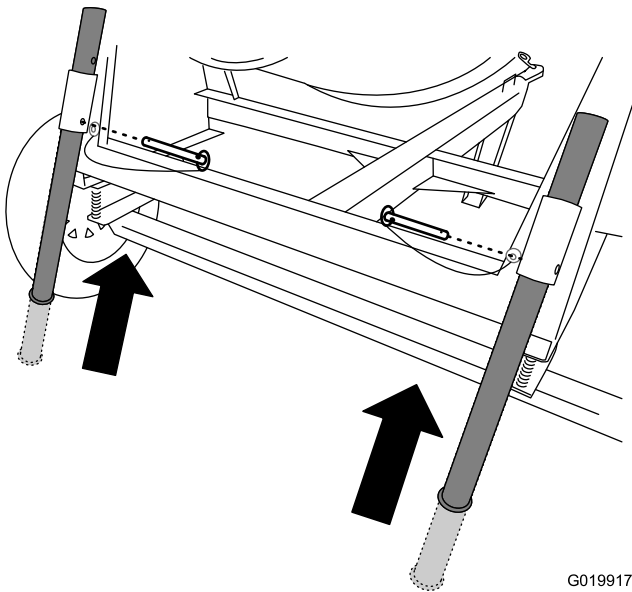

Figure 20
2. Pull the clevis pin out from one of the rear stabilizer legs and the bracket (Figure 20).
3. Slide the stabilizer leg up in the bracket and align the pin hole of the bracket with the lower hole in the stabilizer leg (Figure 20).
4. Push the clevis pin through the hole in the bracket and the stabilizer leg (Figure 20).